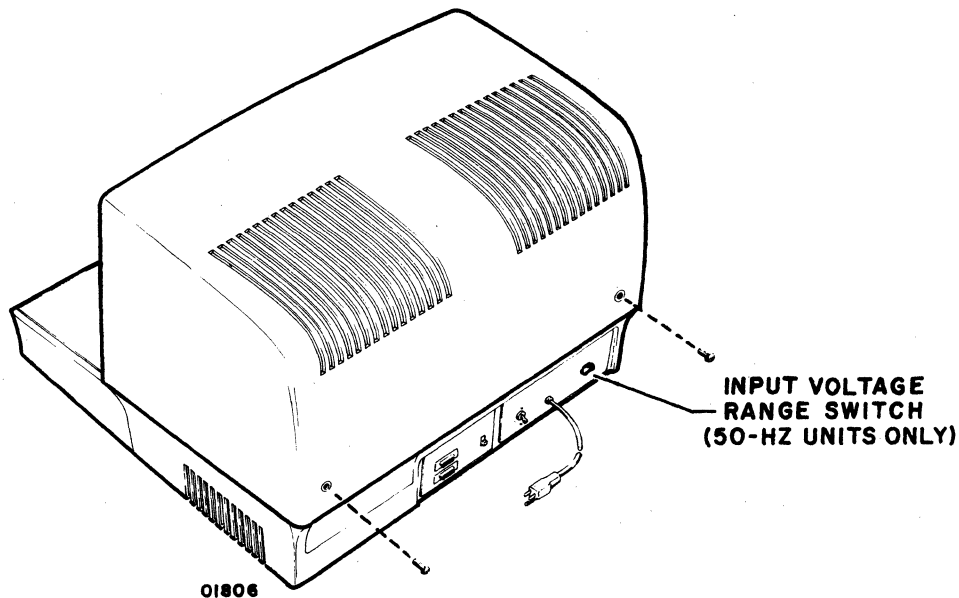

Figure 3-8. Cabinet Hood Removal and 50-Hz Voltage
- 4) Remove cabinet hood by unscrewing two mounting screws in rear of cabinet (figure 3-8) and carefully sliding hood back and up.
- 8) For 50-Hz units only — if primary input power to terminal from site power source measures between 195 and 245-V ac, slide INPUT VOLTAGE RANGE SWITCH (figure 3-8) to LOW LINE position. If input power measures between 216 and 268-V ac, slide INPUT VOLTAGE RANGE SWITCH to NORMAL position. Again, verify proper position of 50/60-Hz Refresh switch located on memory board in logic rack (figure CRT55, section 6).